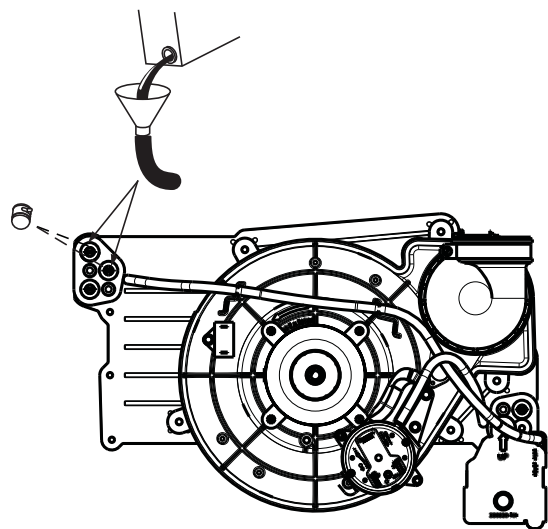

Fig. 64 – Priming Condensate Trap
4. Remove the top unused rubber plug from the port on the collector box opposite the condensate trap. See Fig. 64.
9. Remove the middle unused rubber plug from the port on the collector box opposite the condensate trap. See Fig. 64.